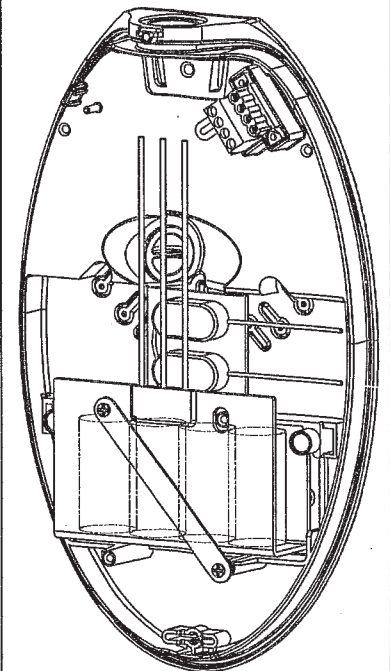

Figure 3
- Figure 3: Installation heater pad